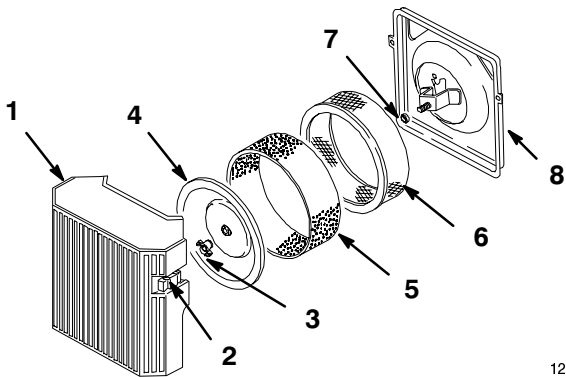

Figure 15
- 3. Clean around the air cleaner to prevent dirt from getting into the engine and causing damage. Unhook latches and remove the air cleaner cover (Fig. 15).
- 4. Carefully slide the foam element off the paper element (Fig. 15).
- 5. Unscrew the cover nut and remove the cover and paper element (Fig. 15).
1. Carefully slide the foam element onto the paper air cleaner element (Fig. 15).
2. Slide the air cleaner assembly and cover onto the long rod. Now screw the cover nut finger-tight against the cover (Fig. 15).
3. Install the air cleaner cover and hook latches (Fig. 15).